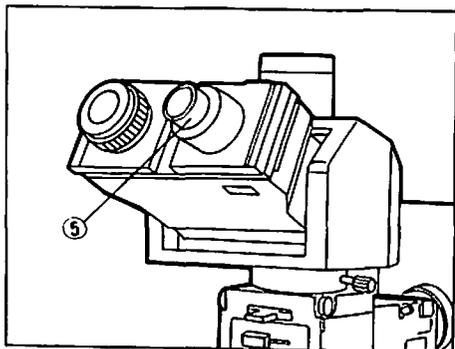

Fig. 19
When Using the Trinocular Tube (BH2-TR30/BH2-TTR) (Fig. 19)
1. Remove the right and left half-mirror unit compartment cover plates ① (Fig. 19) from the universal vertical illuminator by grasping them with your fingertips.